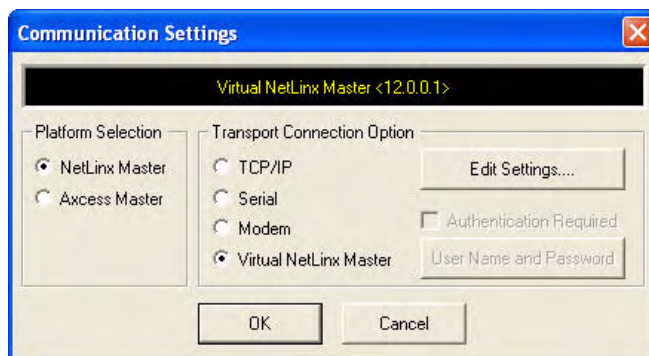

FIG. 81 Communications Settings dialog box
2. Click the **Communications Settings...** button to open the *Communications Settings* dialog box (FIG. 81).